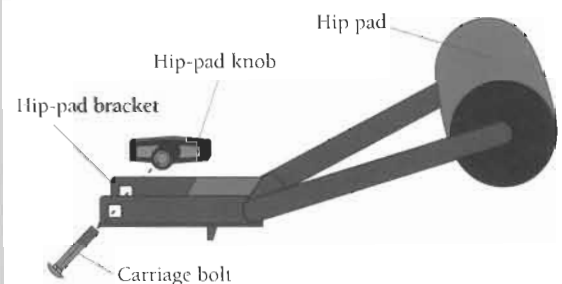

Figure 22
5. Insert the carriage bolt through both holes in the hip-pad bracket (Figure 22).